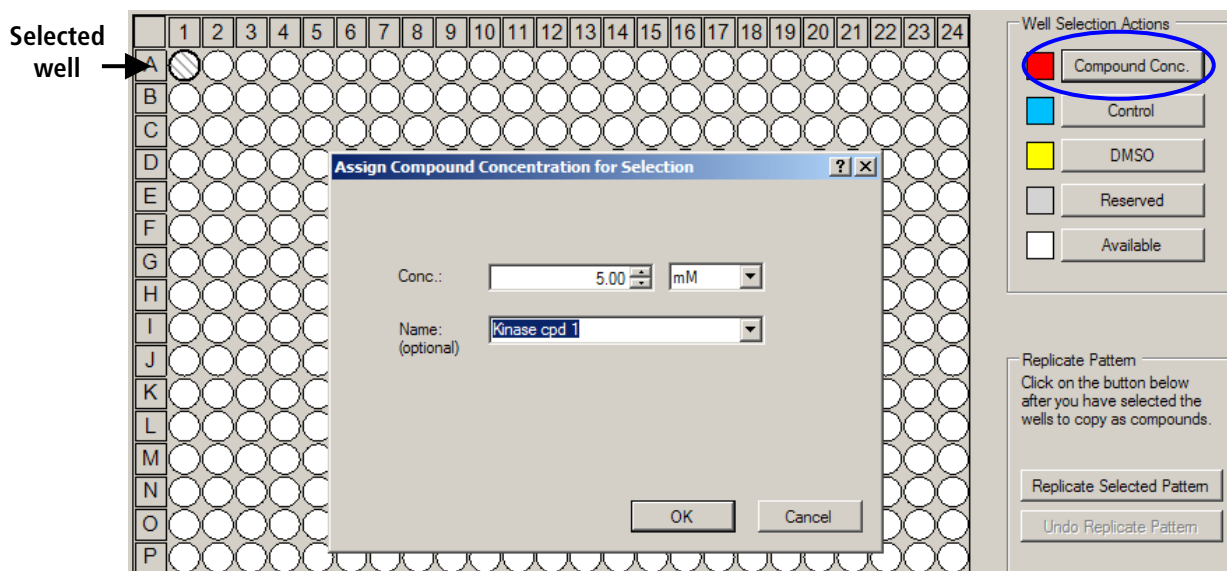

**Figure 3-4: Source Plate Designer window, step 1**
2. Select the **source plate** from the *Source Plate Type* menu. For example, select **Labcyte\_384PP\_StdV**. See Figure 3-4.